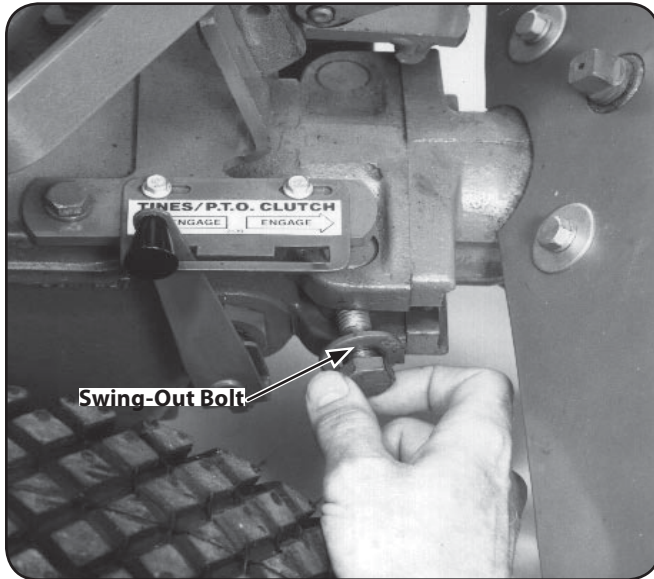

Figure 4-21
8. Then move the swing-out bolts out. See Fig. 4-21.